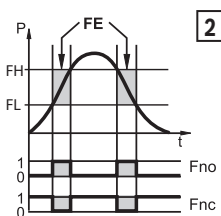

Fig. 2 Normally closed
- Window function / normally closed:  $[ou1] = [Fnc]$  (see Fig. 2).